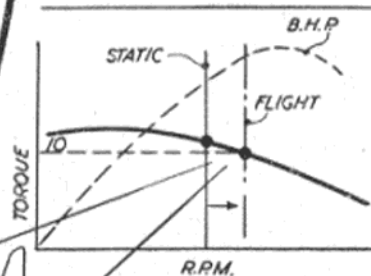

FIG 1
The same engine will drive different propellers at different speeds, hence the torque figure will also be different. Knowing the actual r.p.m. and having a performance curve for the engine, the torque can be spotted on this curve—Fig. 1. Performance curves and prop-r.p.m. figures, however, are invariably obtained under static conditions. In flight, some of the load will come off the propeller and the r.p.m. will increase—usually by about 10-15 per cent. The true in-flight torque will therefore be slightly lower than the equivalent static torque. In Fig. 1 a typical torque figure of 10 ounce-inches is assumed as appropriate to an average 1-1.5 c.c. engine run below peak r.p.m.
(i.e. increasing VI or, since the "I" dimension was fixed by the size of the model, increasing V or airspeed), the lift characteristics of the section were quite different—see Fig. 1. The very much earlier breakdown of the airflow and stall at low VI (i.e. small chord and/or low speeds) is particularly marked and the test data would appear to indicate quite clearly that this particular aerofoil is unsuitable for applications where the product of airspeed (V) and chord (I) is less than about 10.